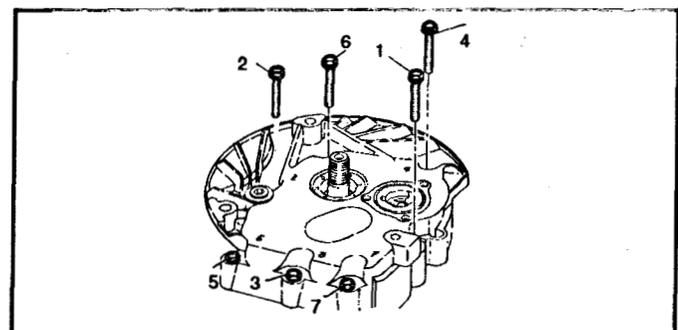

Figure 64
1. Remove the seven 3/8" hex, washer head cap screws that retain the sump to the block of the engine. See Figure 64.